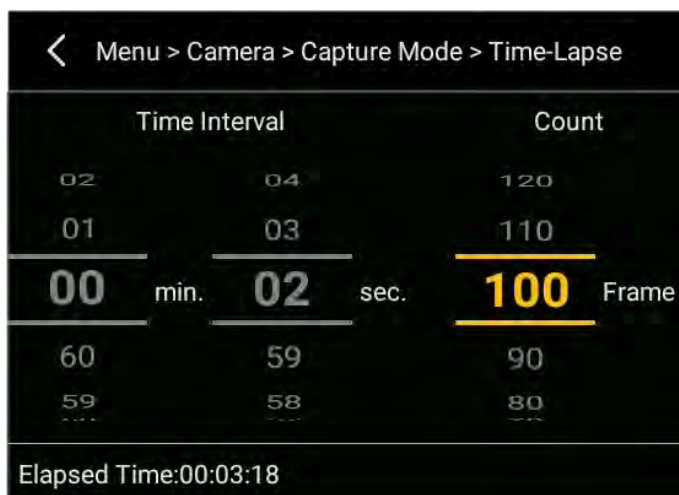

Figure 11. Time-Lapse
3. Slide on the wheel displayed on the screen to select the corresponding minute and second values, as well as the total number of images to be captured, as shown in Figure 11.